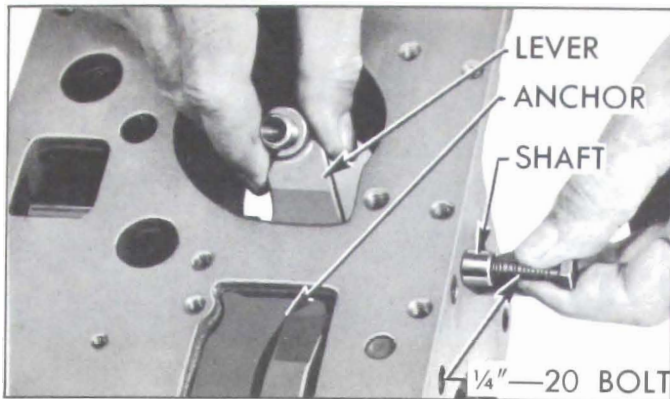

Figure 5-42—Removing Reverse Band Operating Lever and Shaft
5. Thread a 1/4'-20 bolt into the reverse band anchor shaft to pull it from transmission case; then remove the operating lever. Rotate the reverse band until the anchor can be disengaged, then remove this part. See Figure 5-42.